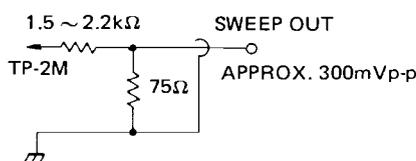

Fig. 2-4 Decoupling Pad
3. Supply a sweep signal from a video sweep generator to TP-2M on the PCB-Y/C through the pad shown in Fig. 2-4.